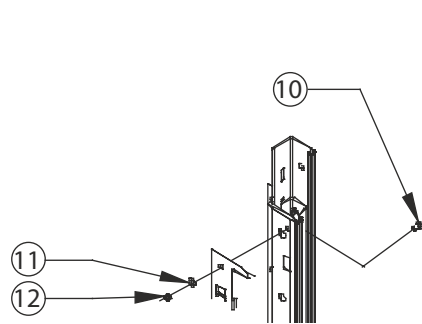

Figure 8
11. Install bottom bar stops as shown in Figure 8. Make certain the head of the bolt is on the inside of the guides for proper door operation.